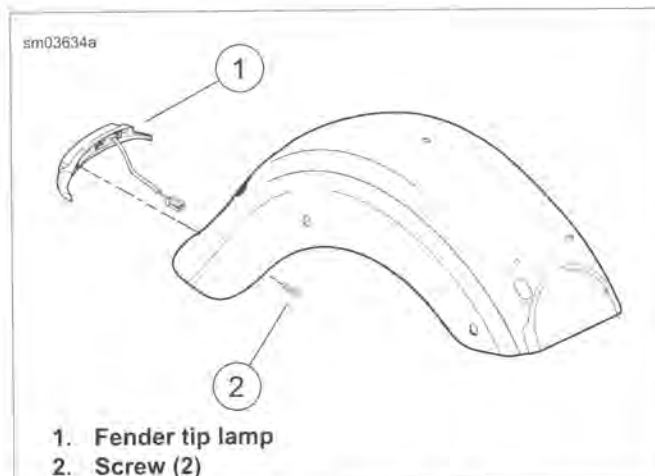

Figure 7-30. Rear Fender Tip Lamp
5. See Figure 7-30. Remove two screws (2).
4. See Figure 7-30. Place fender tip lamp into position. Secure with two screws (2). Tighten to 12-18 in-lbs (1.4-2.0 Nm).